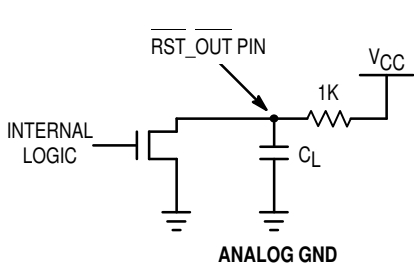

Figure 4. RST_OUT Test Circuit
- The $\overline{RST_OUT}$ pin is an open drain N-Channel output. Therefore an external pull-up resistor must be provide to pull up the $\overline{RST_OUT}$ pin when it goes into the high impedance state (after the MC88920 is phase-locked to the reference input with RST_IN held high or 1024 'Q' cycles after the RST_IN pin goes high when the part is locked). In the t_{PLZ} and t_{PZL} specifications, a 1K Ω resistor is used as a pull-up as shown in Figure 4.